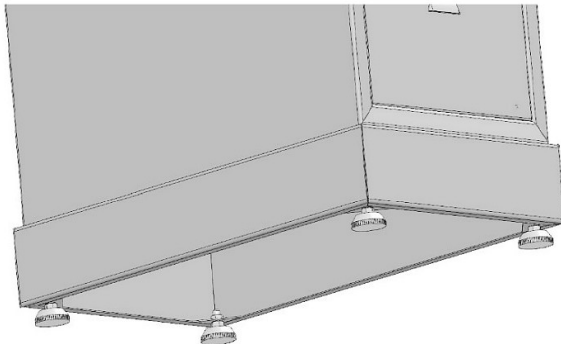

Fig. 6: Insert rubber feet
Step 2: Insert the 4 rubber feet (Fig.6) into the holes underneath the machine.